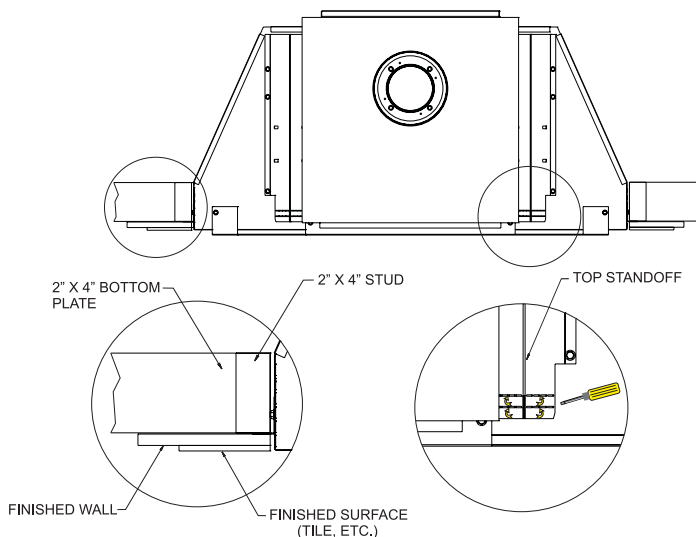

Figure 10B
2. Frame in fireplace with a header across the top. It is important to allow for finished face when setting the depth of the frame. **See Figure 10B.**